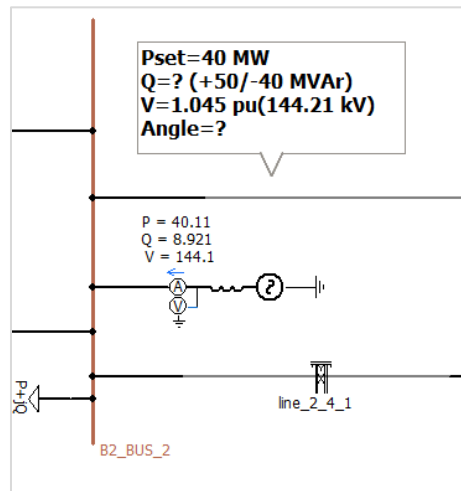

Figure 5 - Bus B2\_BUS\_2 in solved PSCAD case
- Open the saved PSCAD case (PSCAIEEE14BUS\_INITIALIZED.pscx) in PSCAD and run the case. Verify the steady state values, such as bus voltages, active and reactive power flow through branches. The active power and voltages are as expected as shown in Figure 5.